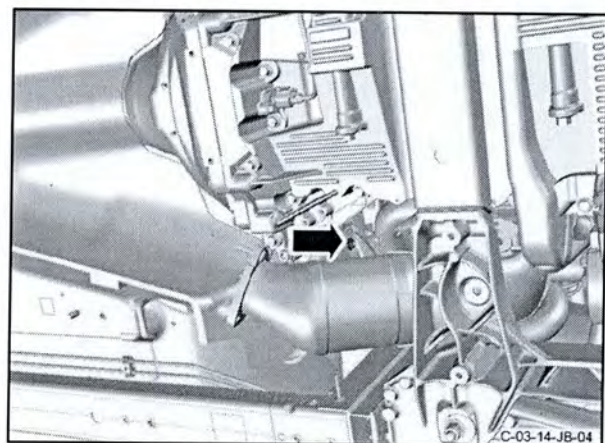

Figure 29
- 53. Remove the nut that attaches the heat shield for the front floor to the body Figure 29.